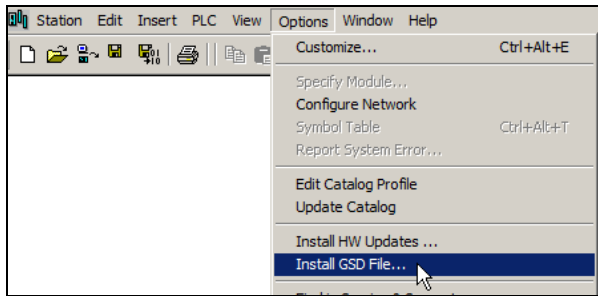

Figure 18: Search for the GSDML file
- 6) Select **Options > Install GSD File...** (see: Figure 18: Search for the GSDML file).